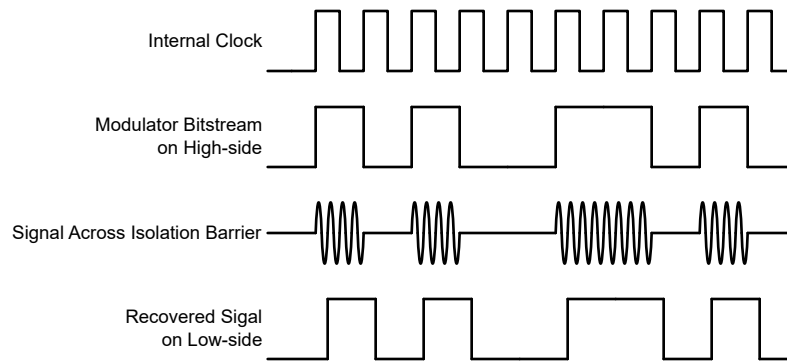

Figure 7-1. OOK-Based Modulation Scheme
As shown in Figure 7-1, the AMC0x11R uses an on-off keying (OOK) modulation scheme to transmit the modulator output bitstream across the SiO₂-based isolation barrier. The transmit driver (TX) is illustrated in the Functional Block Diagram. TX transmits an internally generated, high-frequency carrier across the isolation barrier to represent a digital one. However, TX does not send a signal to represent a digital zero. The nominal frequency of the carrier used inside the AMC0x11R is 480MHz.